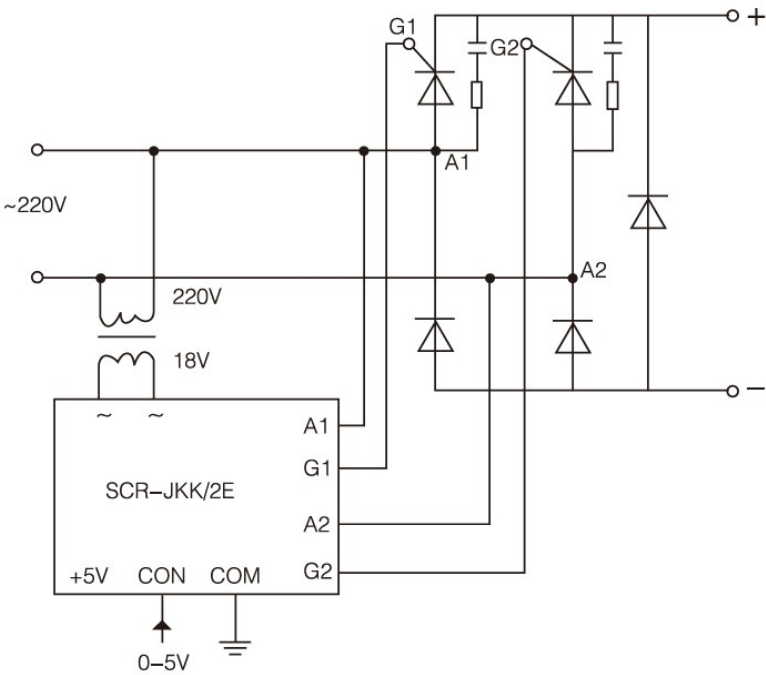
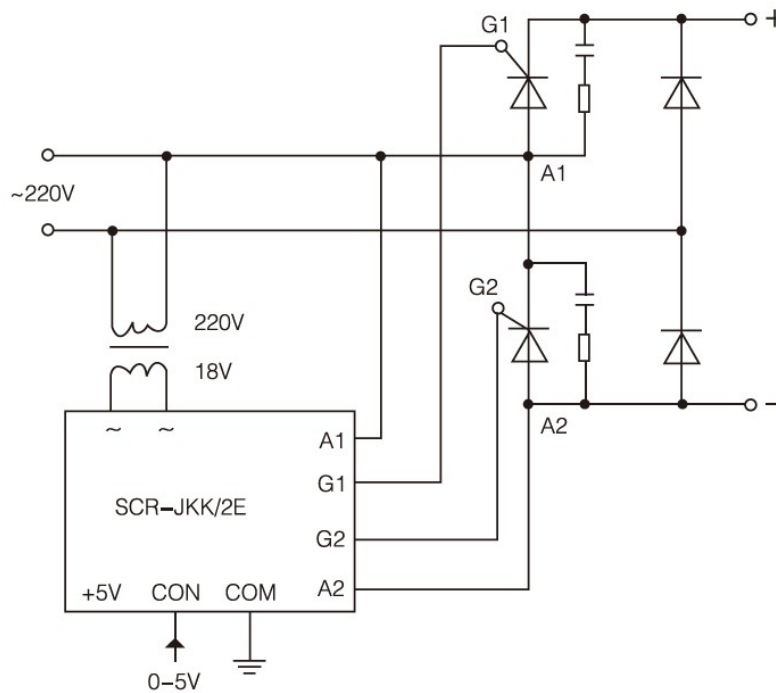

Figure C-1, the application circuit diagram (1) of
Figure C-2, the application circuit diagram (2) of SCR-JKK/2
(Note: see Figure D-C-1 and Figure D-C-2 for the improved circuit diagram of Figure C-1 and Figure C-2)
- **IMPROVEMENT DESCRIPTIONS:** For these phase-shift trigger module series, in order to improve the static  $dv/dt$  of the voltage regulation system (consisting of the phase-shift trigger module, the thyristor and the synchronous transformer) and also prevent the voltage regulation system from the transient conduction once when the system is switched and powered on, the improvements of Figure B-1/B-2 and Figure C-1/C-2 as follows: The A port of the phase-shift trigger module should be connected to the midpoint of the corresponding RC snubber loop, and the connection method of R and C must be as shown in the figure (that is, one end of R should be connected to the anode of the single-phase thyristor or the main electrode T1 of the TRIAC, and one end of the C should be connected to the cathode of the single phase thyristor or the main electrode T2 of the TRIAC), and the positions of R and C cannot be exchanged. The resistance of the RC circuit is generally  $15\sim30\Omega$ , 3W or more, and the capacitance is  $0.1\sim0.47\mu\text{f}$ , 250VAC/400VAC or more.